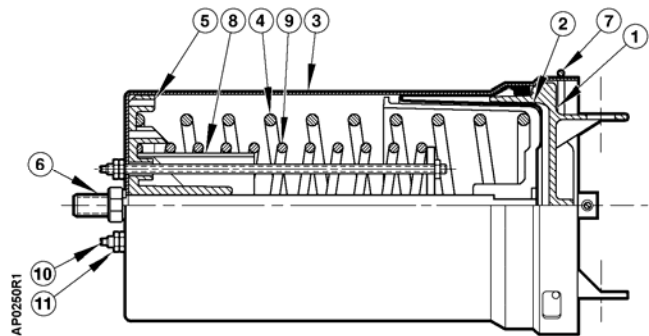

Figure 4. Hesitation Actuator.
(Figure 4)**
2. Turn locknuts on cycle adjustment rods until they contact lower housing, then lock together (Figure 4, Items 10 and 11). For initial hesitation point settings other than one inch (25 mm), follow this same procedure.